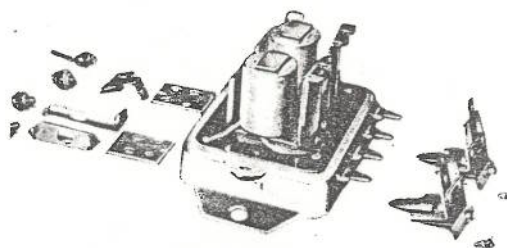

Fig. 10-137
- 3) Remove the point retainer and armature plate from the yoke. (See Fig. 10-137)